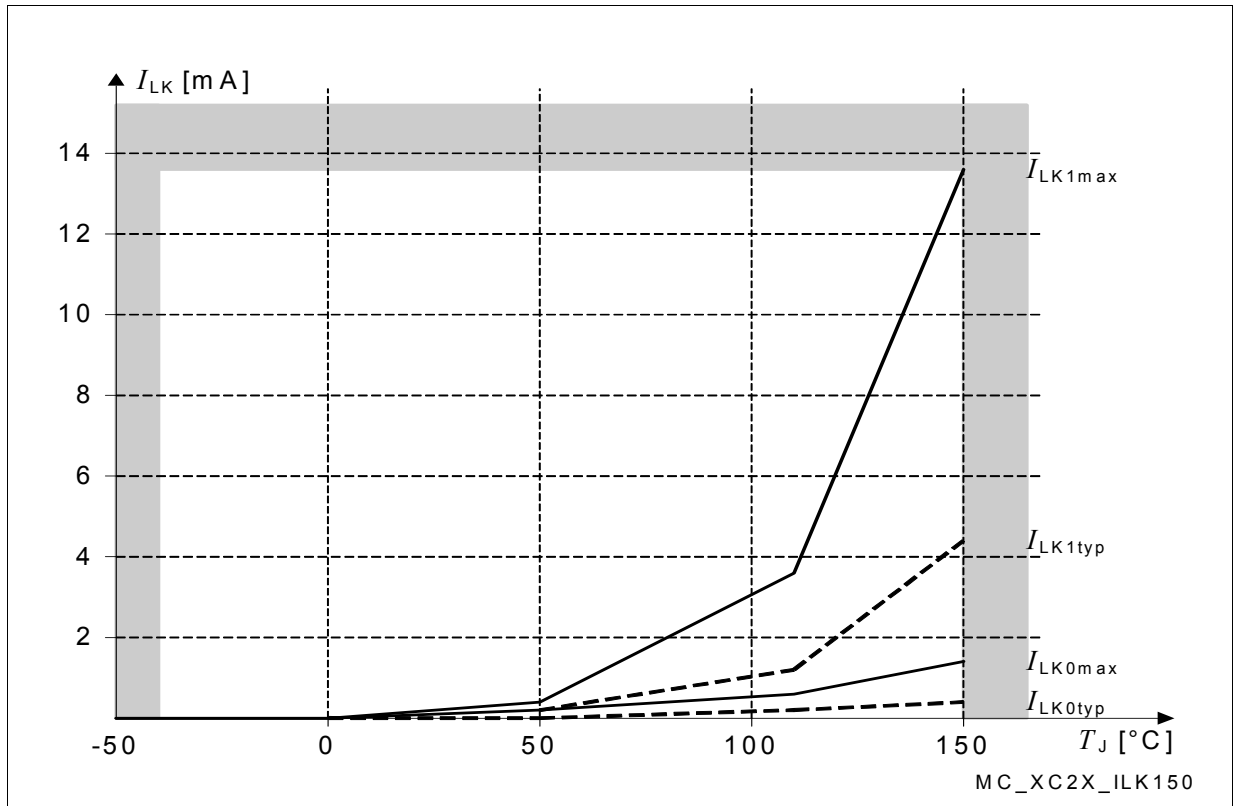

Figure 14 Leakage Supply Current as a Function of Temperature
2) The supply current caused by leakage depends mainly on the junction temperature (see Figure 14) and the supply voltage. The temperature difference between the junction temperature T_J and the ambient temperature T_A must be taken into account. As this fraction of the supply current does not depend on device activity, it must be added to other power consumption values.